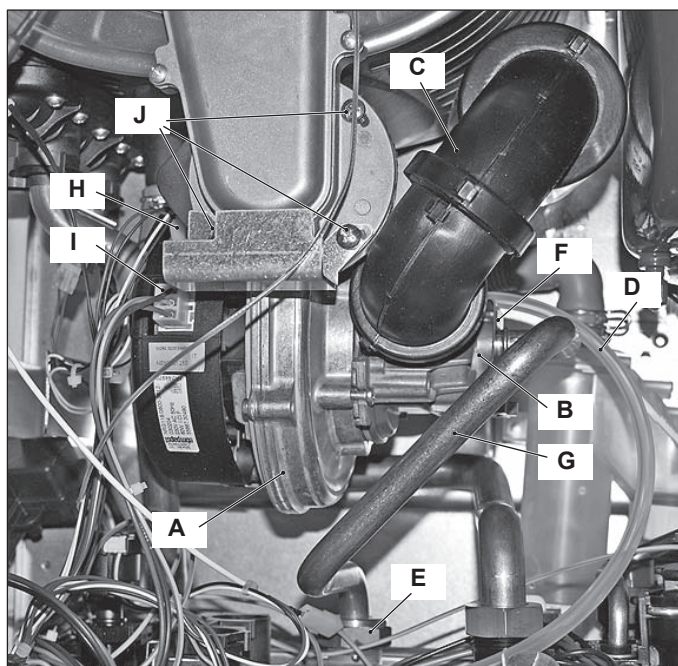

Figure 17.2
- 3 Disconnect the air manifold C (Figure 17.2).
Before reassembling ensure the fan gasket (Figure 17.2) is correctly mounted.